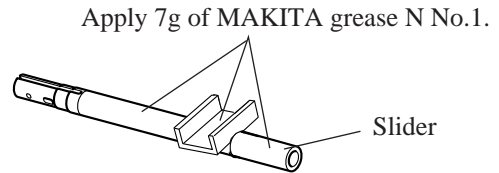

Fig. 13A
- d. Apply 7g of MAKITA grease N No.1 to slider. See Fig. 13A.